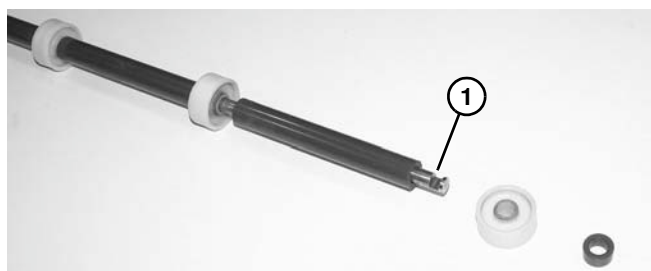

Figure 34
*Note orientation of components and notch (**Figure 34, item 1**) on shaft before installing assembly. Notch will be facing down to attach into retainer plate on conveyor.*